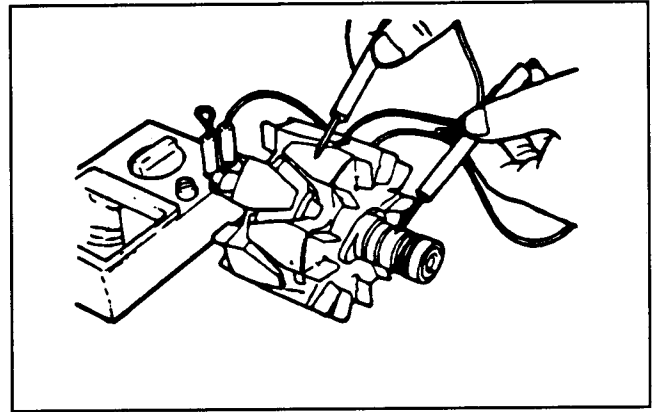

Figure 55
11. Check for continuity between a slip ring and shaft (core) (Fig. 55). Replace the field coil if there is continuity.